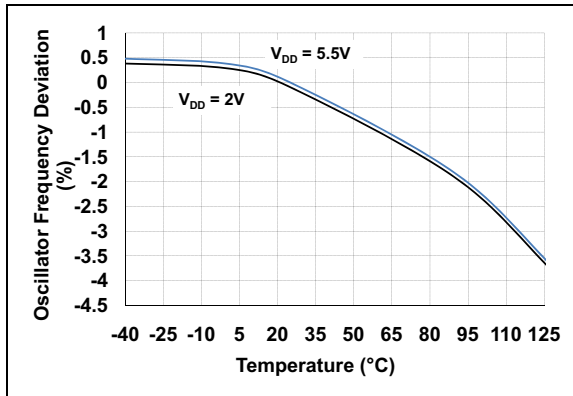

FIGURE 2-1: Oscillator Frequency Deviation vs. Temperature.
- Note 2:** Related to the internal oscillator frequency (see Figure 2-1).